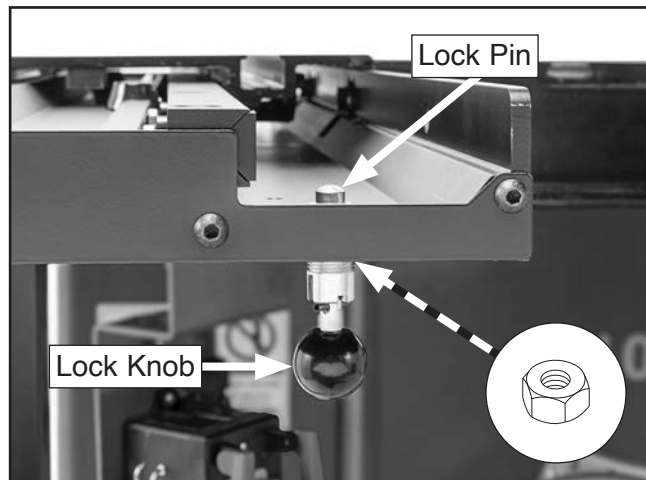

Figure 7. Table lock installed.
10. Thread table lock into sliding table base (see **Figure 7**) until top of lock pin sits $\frac{5}{8}$ " above base, then tighten hex nut against table base to secure.
11. Move sliding table backward over lock pin until table locks into position. If table *does not* lock, pull down on lock knob (see **Figure 7**), rotate knob 90°, then try again.